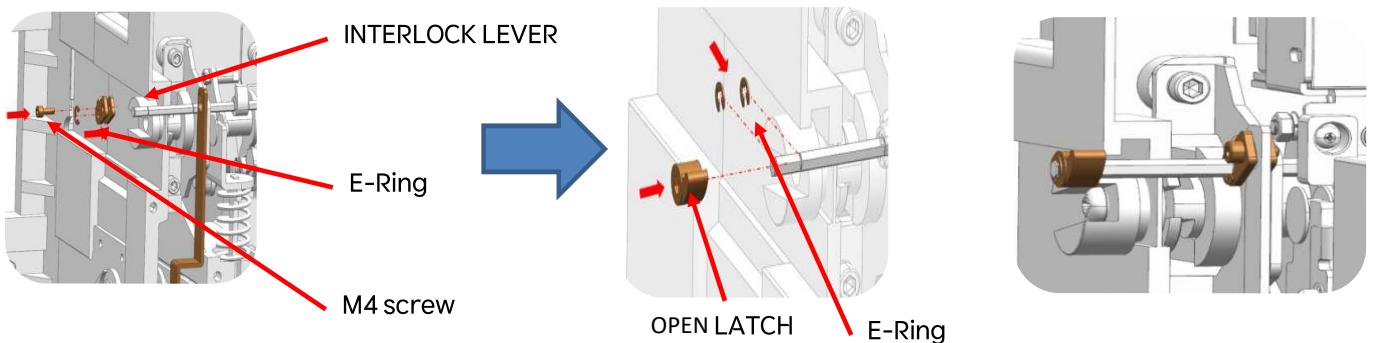

FIG 11
*Interlock Lever & open Latch 설치 / Installtion of Interlock Lever & Open Latch [FIG 11]